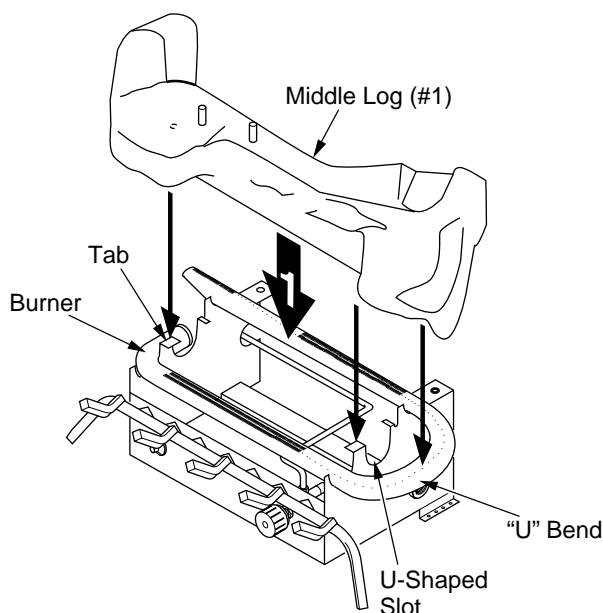

Figure 22 - Installing Middle Log (#1)
1. Place the base of the middle log (#1) in the U-shaped slots of the grate base. The cutout on the right of the middle log should fit over the burner (see Figure 22). Make sure the front of the middle log is resting on the tabs of the grate base and the cut-out area is centered over the burner "U" bend.